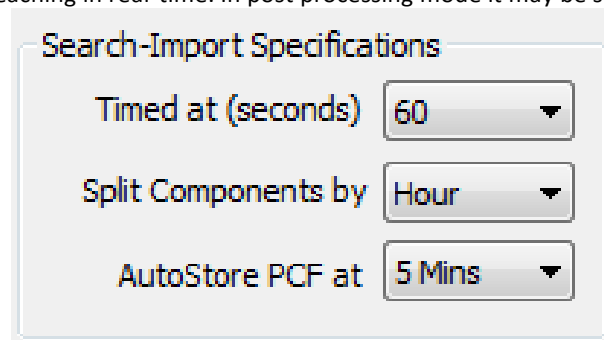

Figure 5-81: Streamer leach search and import configuration
N.B. The Timed at combo-box choice in the streamer leach dialog (Figure 5-81) should be set to the same value as the File Search interval when leaching in real-time. In post processing mode it may be set to a lower value.
The multiple array streamer leach may involve significant demands on the memory of the computer if the File search interval is set too long. See comparison in Figure 5-81. However, a longer time interval can reduce the percentage of SEGYS that are re-read each time and the number of directory searches that are performed, improving efficiency.